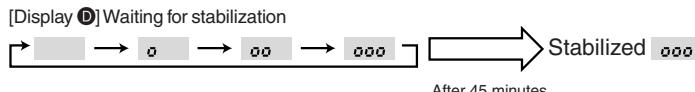

Fig. 8-3
③ Press **FILTER** (↔) button to confirm. (Fig. 8-3)